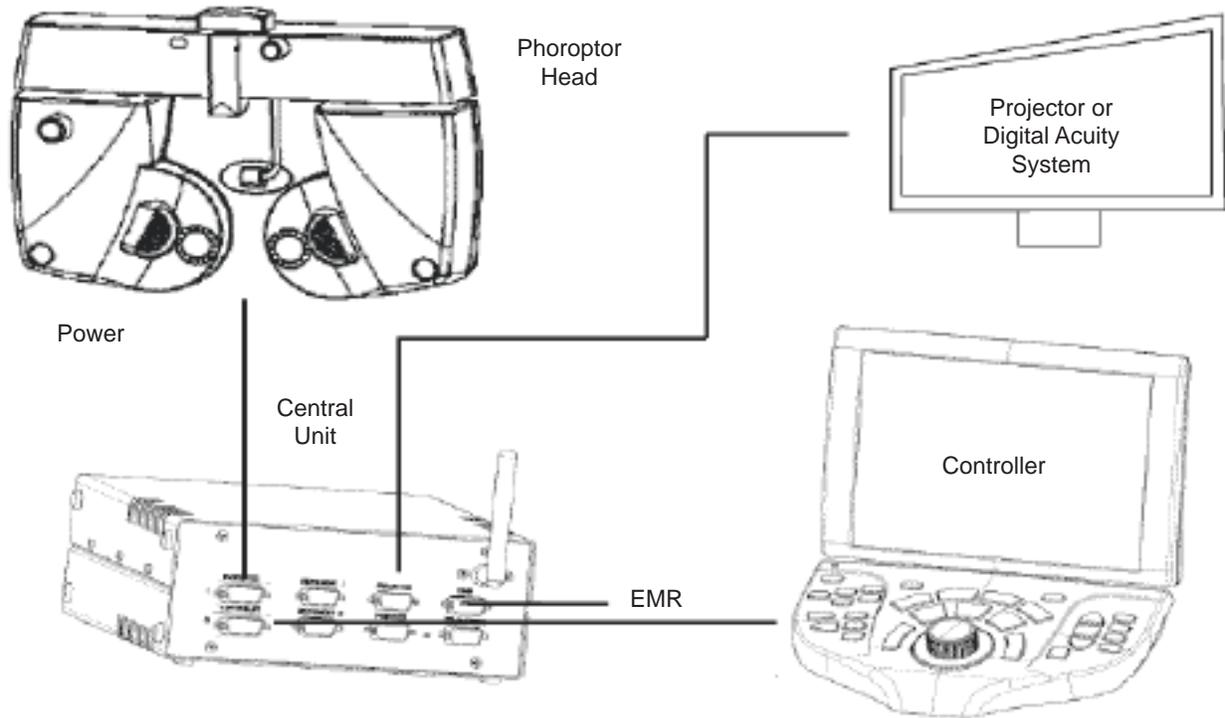

Figure IS-07, Connection Diagram
3. Connect the Phoroptor head to the Central Unit by attaching the Phoroptor Cable (**REF 559-275**) to the Phoroptor port in the Central Unit. (Please refer to Figure IS-07.)
4. Connect the Controller to the Central Unit by attaching the built-in cable to the Controller port in the Central Unit. (Please refer to Figure IS-07.)
5. Connect the Projector to the Central Unit by attaching the cable or pairing a Bluetooth adapter to the projector port in the Central Unit. (Please refer to Figure IS-07.)
6. Connect a computer to the Central Unit by attaching the cable or pairing a Bluetooth adapter to the EMR port in the Central Unit. (Please refer to Figure IS-07.)
Please refer to the Connection Diagram in Figure IS-07 for plug and cable layout.